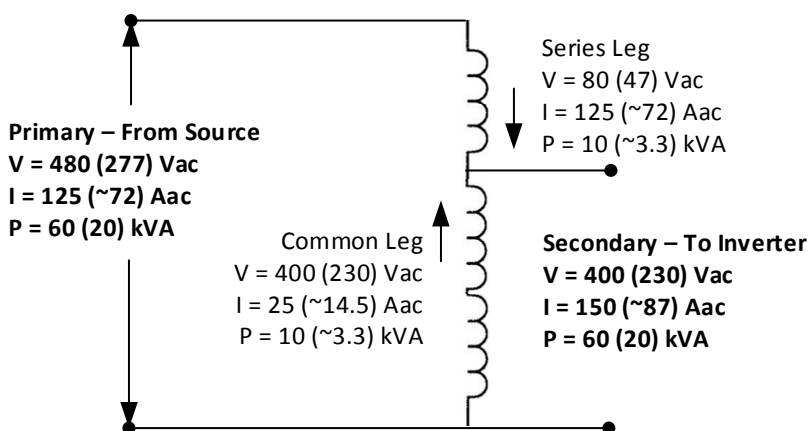

Figure 2: Single diagram representation of 3-phase autotransformer (single-phase values on each transformer leg)
1. With up to three 7 kVA inverters per phase, the 3-phase system sizes are 21, 42 or 64 kVA. In the example in Figure 2 with a 60 kVA source and load, there is approximately 87 Aac per phase. This means that at least two inverters per phase would be required as each inverter can pass through up to 50 amps.
4. If using solar (PV), size the array to the battery bank for hours or days of autonomy and depth of discharge.